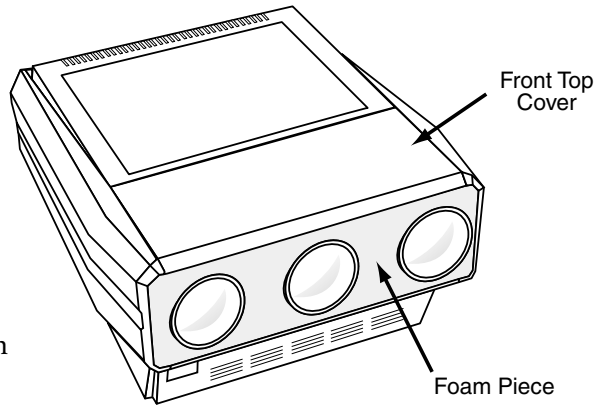
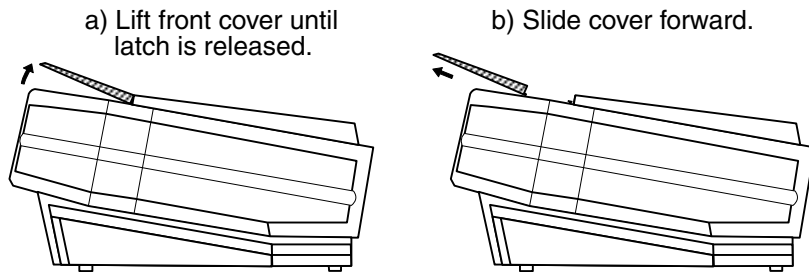

Figure 2-19. *Front Top Cover*
Figure 2-20. *Front Top Cover Removal*
Step 2 ➤ Locate the front top cover of the projector. See Figure 2-19. Next, position your hands above the red and blue lenses then grasp the cover. Gently lift it until it is released from its securing latch. Slide the cover away from the projector as shown in Figure 2-20 below.